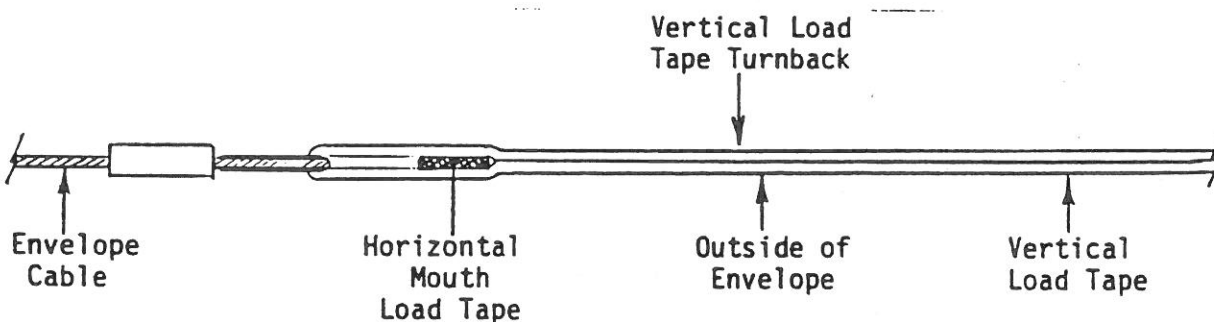

Figure 1. INCORRECTLY INSTALLED MOUTH LOAD TAPE
<p>5. Accomplishment Instructions: Inspect the burner mounting bracket for cracking. Refer to Page 2 of 3 Figure1. Cracked brackets must be replaced before the next flight. Non-conforming brackets must be replaced at the next Annual/100 Hour Inspection. Bracket replacement MUST be performed by an FAA certified Repair Station or Repair person. Replacement brackets, with an instruction sheet for Repair Stations or Repair Persons, will be provided. The old bracket must be returned to Cameron Balloons U.S. The burner may also be returned (at the owners expense) to the factory. Contact Cameron Balloons U.S. for details.</p>
7. Figure 1: